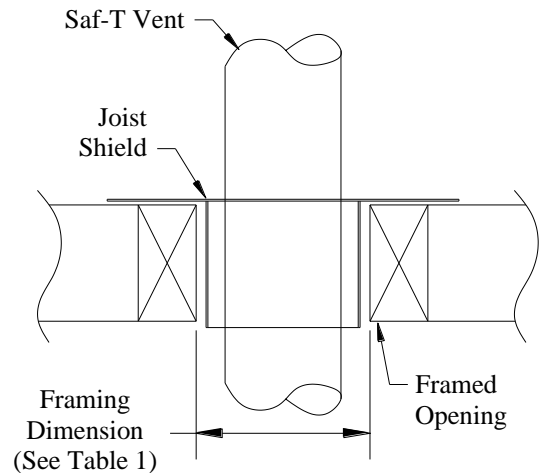

Fig 16. (Joist Shield)
2. From the top side of the ceiling or roof, install the Joist Shield so that the shield extends down into the framed opening created in step 1 (See Fig. 16).